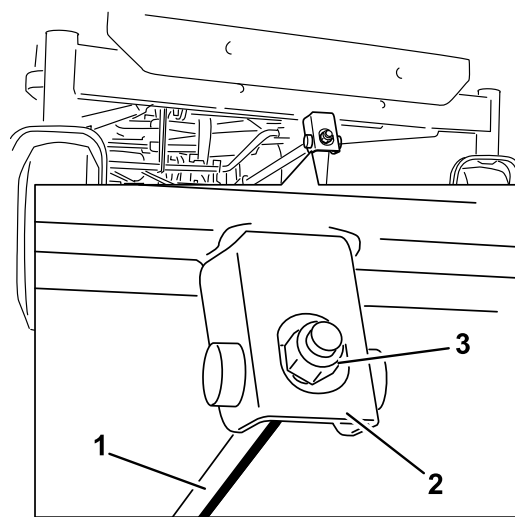

Figure 73
6. To adjust the front-to-rear blade slope, rotate the adjustment nut in the front of the mower (Figure 73).